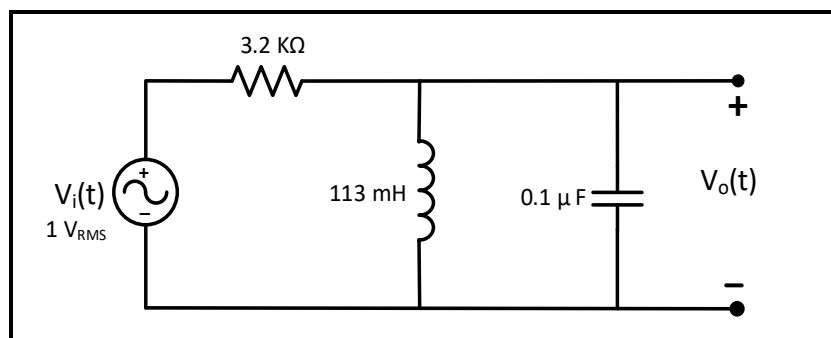

Figure 10.15
5. Calculate the center frequency (f_0), two cut-off frequencies (f_{c1} and f_{c2}), and bandwidth (β) **in Hertz** for the circuit in Figure 10.15 with two values of R (3.2 k Ω and 1.6 k Ω)
6. Calculate the center frequency (f_0), two cut-off frequencies (f_{c1} and f_{c2}), and bandwidth (β) **in Hertz** for the circuit in Figure 10.15 with R = 3.2 k Ω and with another value of L = 60mH.
1. Connect the circuit of Figure 10.15, with a sinusoidal input voltage at 1 V_{RMS} , use decade box for R.